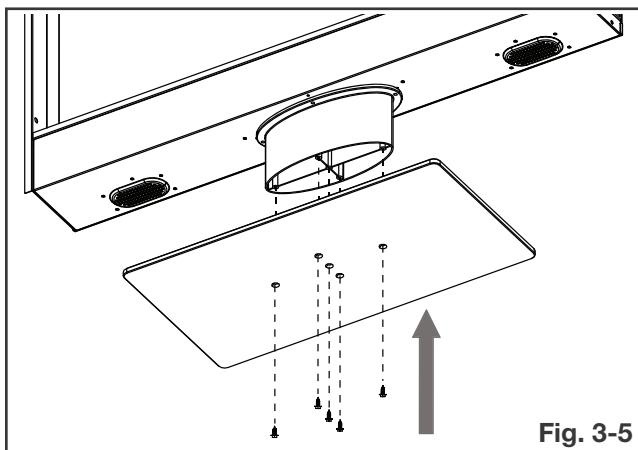

Fig. 3-5
- F. Secure the glass base into the center piece using 5 screws (supplied) (**Fig. 3-5**).